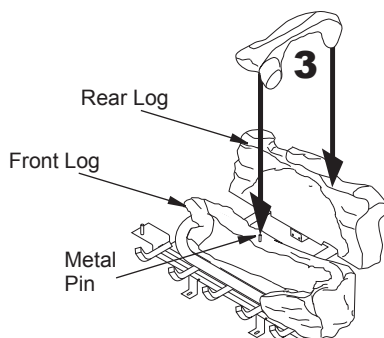

Figure 31 - Installing Log No. 3
3. Place log #3 (crossover log) onto rear and front logs. Make sure it is seated properly on surface of rear log and pin on front log as shown in Figure 31.